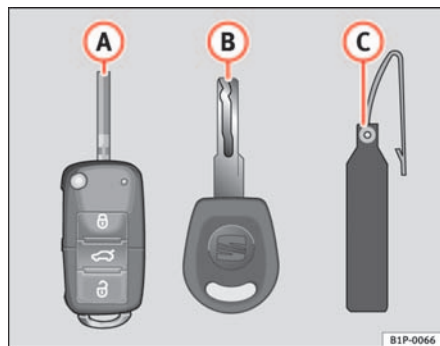

Fig. 54 Set of keys
- one remote control key ⇒ fig. 54 (A) with folding key bit*,
- one key with a remote control (B),
- one key tab (C) with the key number.
Spare keys cannot be issued without the key number on the key tab ⇒ fig. 54 (B). Therefore: